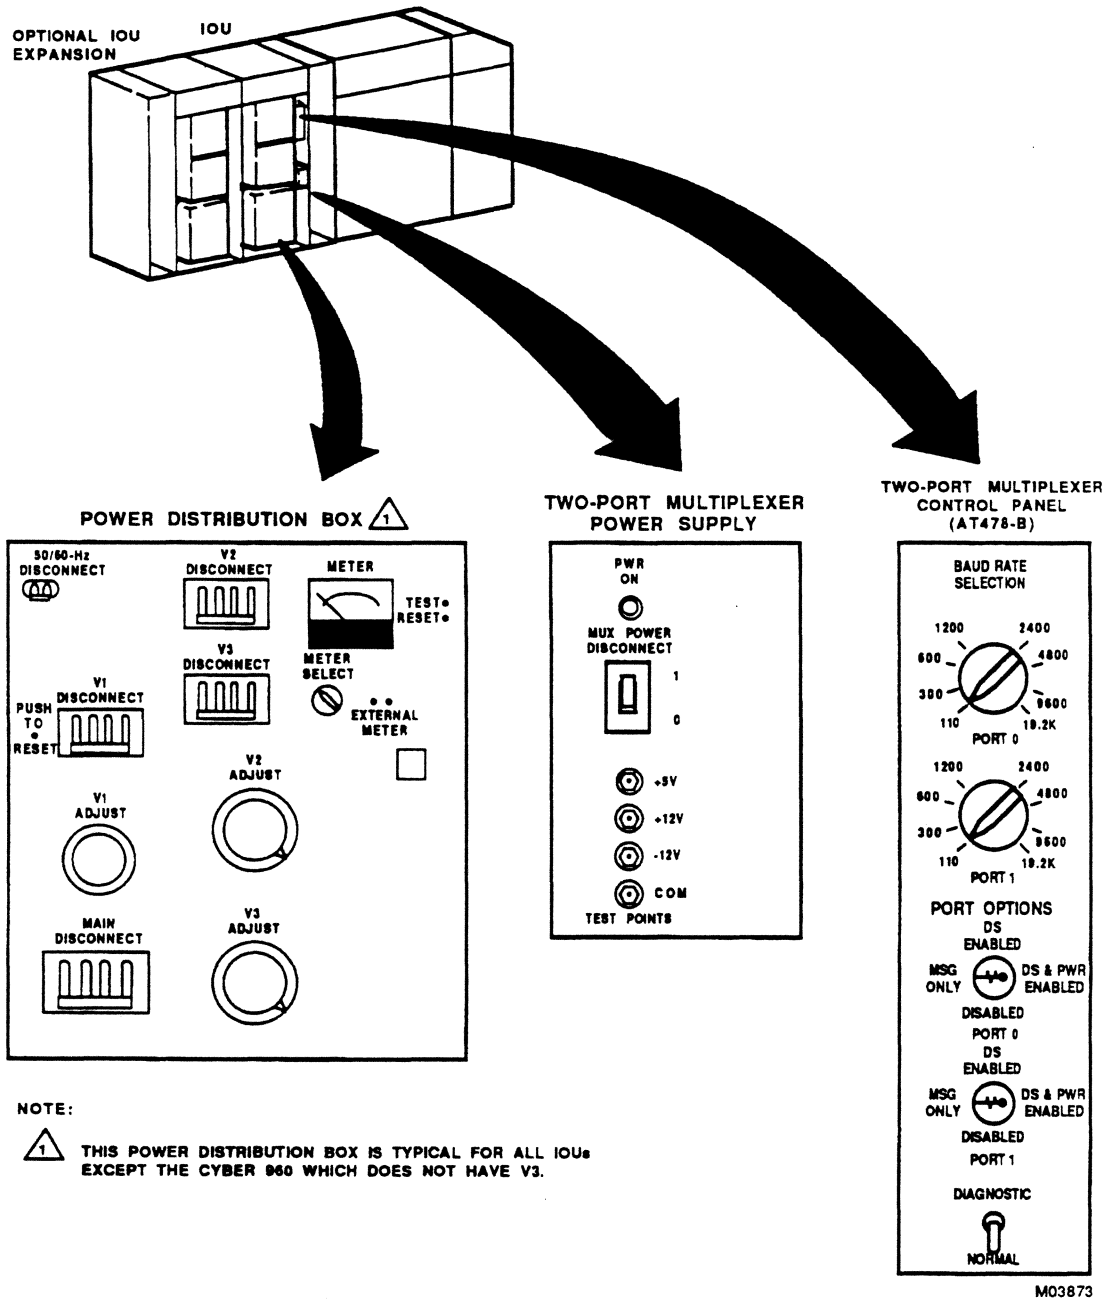

Figure 2-56. IOU Controls
- ___ 4. Set IOU circuit breakers and controls (figure 2-56) as follows: